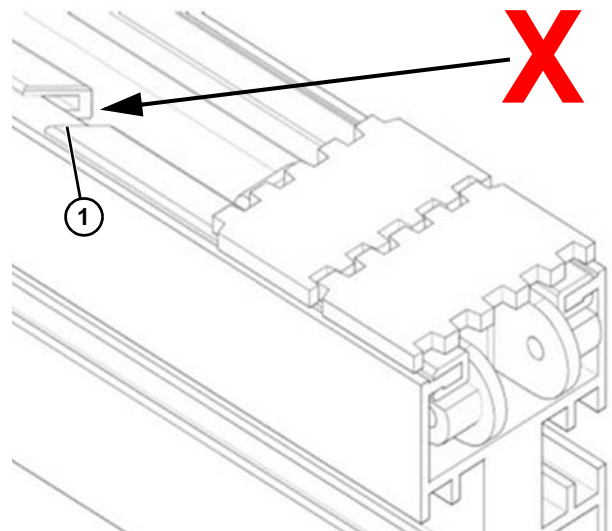

Figure 116
- Check that the gap (**Figure 116, item 1**) between the slide rails and that the joints fit correctly.